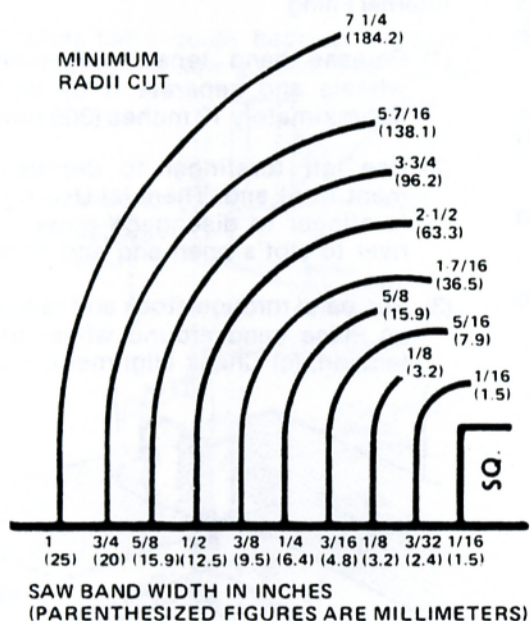

FIG. 44. MINIMUM RADII CUT CHART.
- (1) To prepare for internal contour sawing: (a) Drill a starting hole in stock; (b) Run band through the hole; (c) Weld the band.
- (2) The drilled starting hole's diameter is determined by band size. Use the widest possible band for curve to be cut.
- (3) Attempting to cut too small a radius with too wide a band will cause binding, and the lower wheel tire may become grooved. The following chart indicates minimum radii cuts possible with various band widths. See Fig. 44.